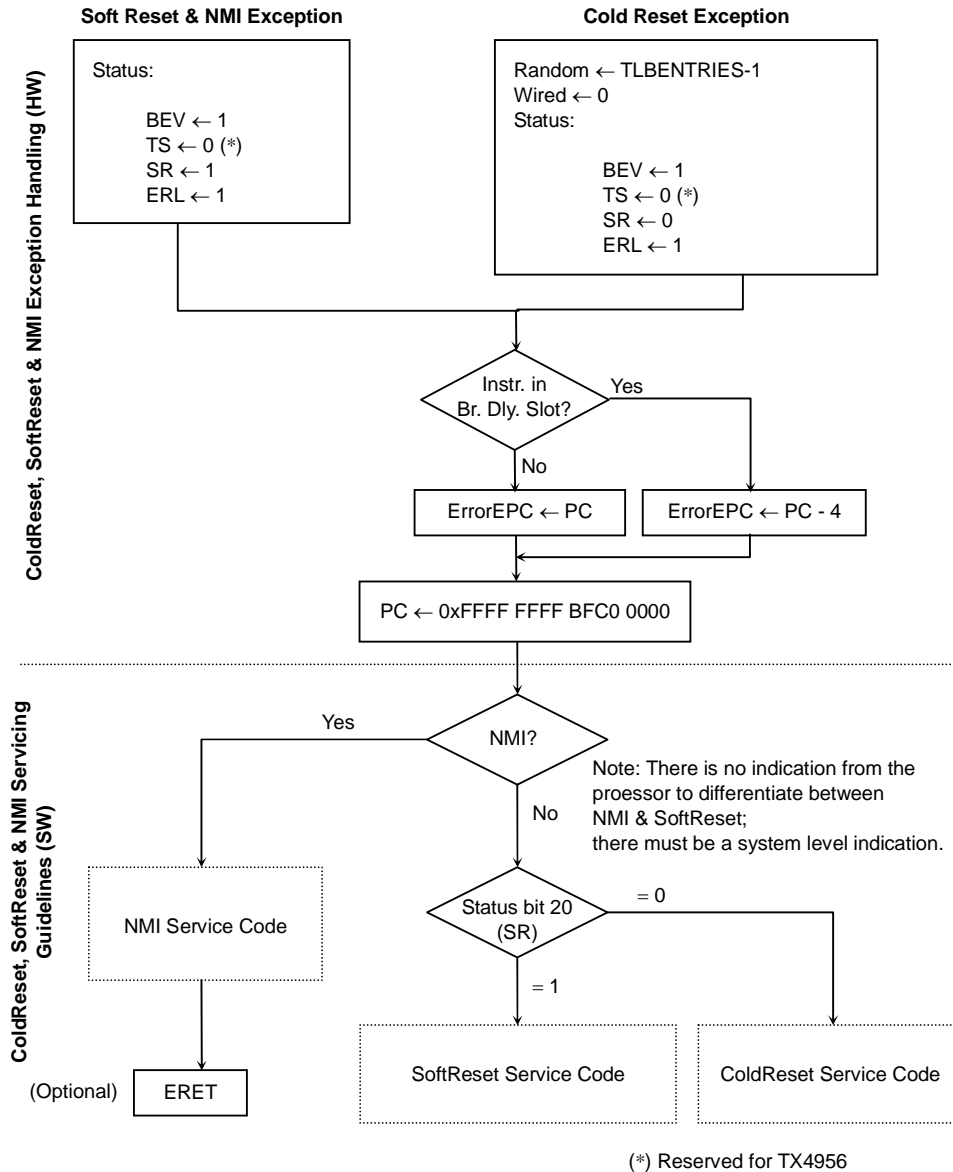

Figure 8.20.5 ColdReset, SoftReset & NMI Exception Handling (HW) and Servicing Guidelines (SW)
- Figure 8.20.5 shows ColdReset, SoftReset & NMI Exception Handling (HW) and Servicing Guidelines (SW)